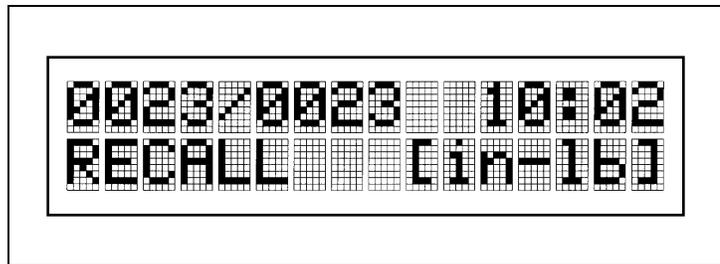

Figure 3-5: RECALL Data Display
1. Press RECALL DATA. The LCD displays as shown in *Figure 3-5*. The present memory location is at the upper left, the total number of memory locations to its right and the time the data was stored at the far right.
- The LCD display reads as shown in *Figure 3-5*. The present memory location at the upper left, total number of memory locations to the right and time data was stored at far right.
- LCD displays as shown in *Figure 3-5*. The present memory location at the upper left, the total number of memory locations to the right and the time data was stored at far right.